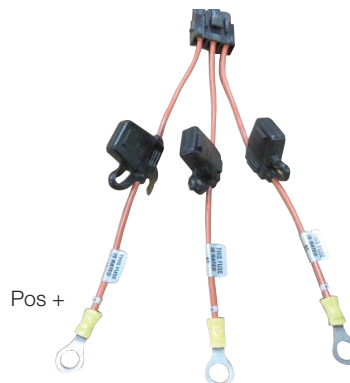

Figure 12 - Triple Battery Positive Cable End
- Manual field input capabilities using RPM adjustment knob. Reference figure 12.